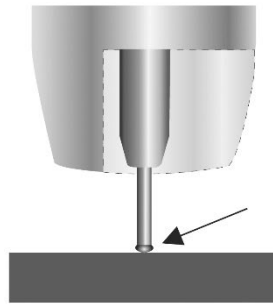

Fig. 13
1. The wire approaches the workpiece and touches the work creating a short-circuit between the wire and the base metal, because there is no space between the wire and the base metal there is no arc and current flows through the wire (Fig. 13)